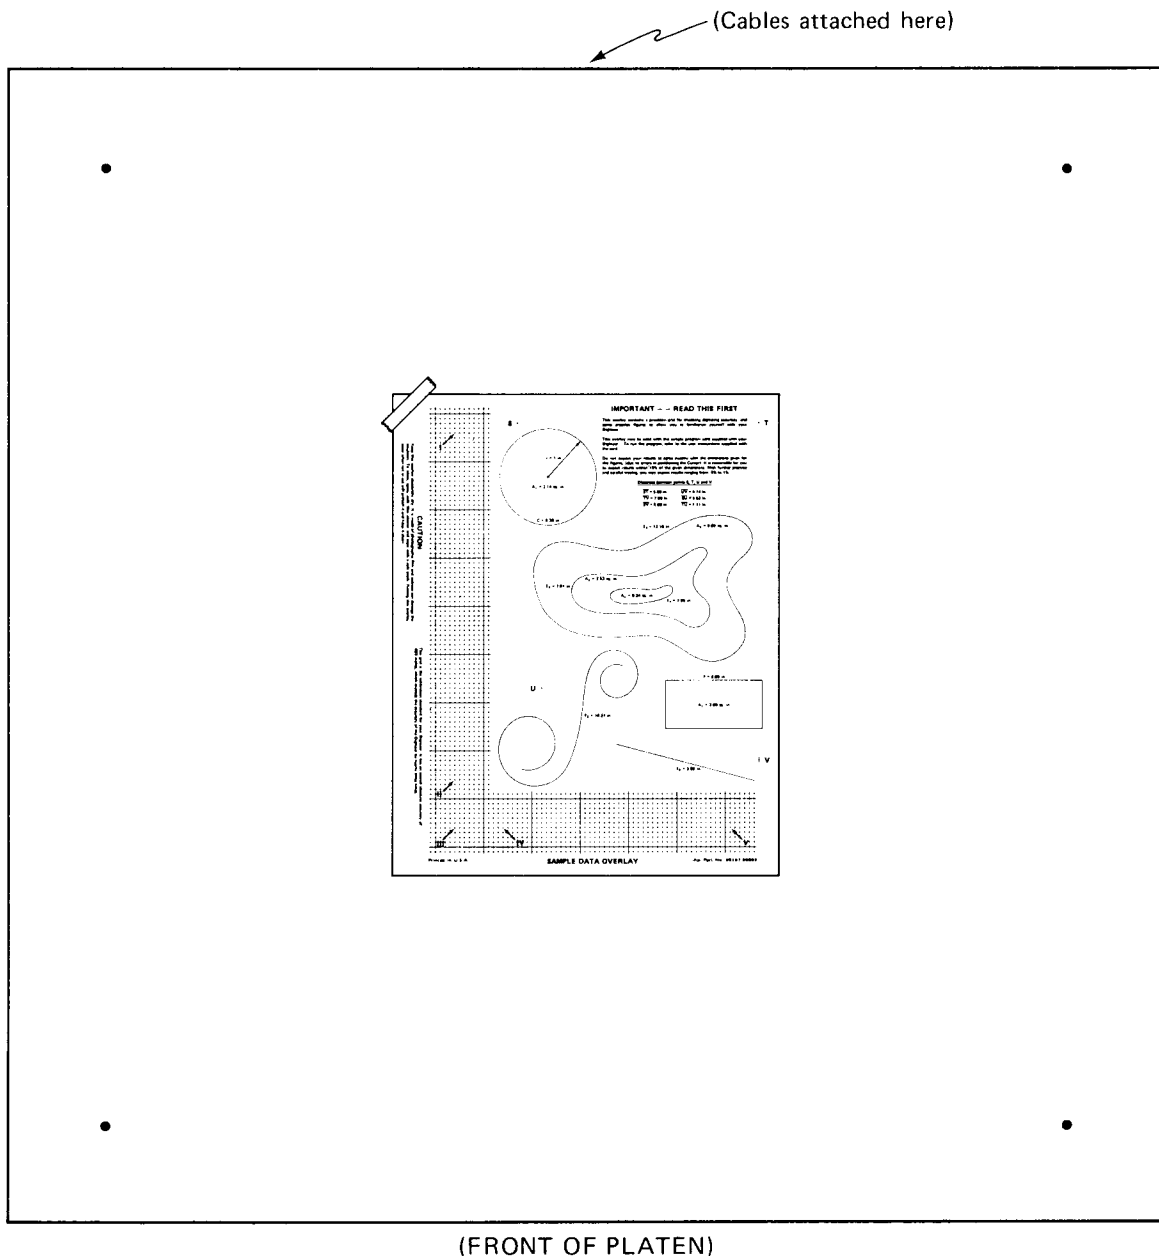

Figure 5-1. Document Alignment Procedure
2. Attach the Sample Data Overlay supplied with your digitizer to the digitizer platen (see Figure 5-1).
2. Attach the Sample Data Overlay (or another document which is to be digitized) to the digitizing surface, as shown in Figure 5-1.